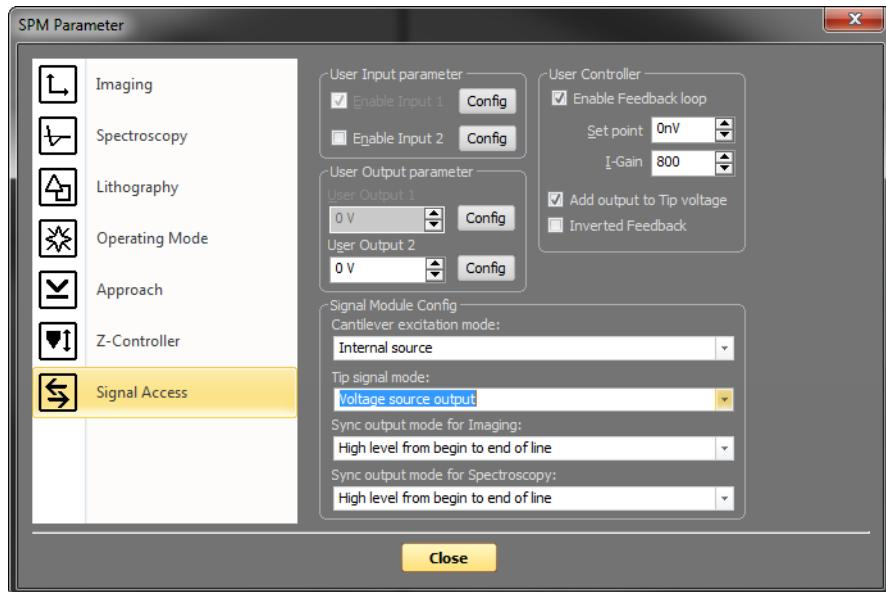

Figure 8-10: Activating Voltage Source Output
- ① In the "Hardware" group of the "Settings" tab, select the "Signal Access" button:
- ② In the SPM Parameter dialog, which now opens with the Signal Access page, select "Voltage Source Output" as Tip Signal mode in the Signal Module Config section (see *Figure 8-10: Activating Voltage Source Output*).
- ① In the Mode Properties section of the Imaging window, make sure that “Tip Voltage” is set to 0 V.
- ② Set all Signal Access parameters and settings to the ones shown in *Figure 8-10: Activating Voltage Source Output* (page 103).
- ④ In the User Controller section of Signal Access page of the SPM Parameters dialog, check or uncheck the “Inverted Feedback” option (see also *Figure 8-10: Activating Voltage Source Output* (page 103)).